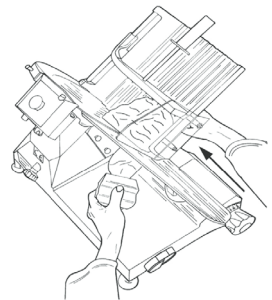

Fig. 2. Cutting meat
- smoothly push the carriage (food tray + meat pusher + stem) towards the blade without exerting pressure on foodstuffs with the meat pusher since they have their own force of gravity which exerts pressure on the thickness gauge. The blade will easily cut foodstuffs and slicers will be guided by the deflector onto the collecting plate (see Fig. 2);